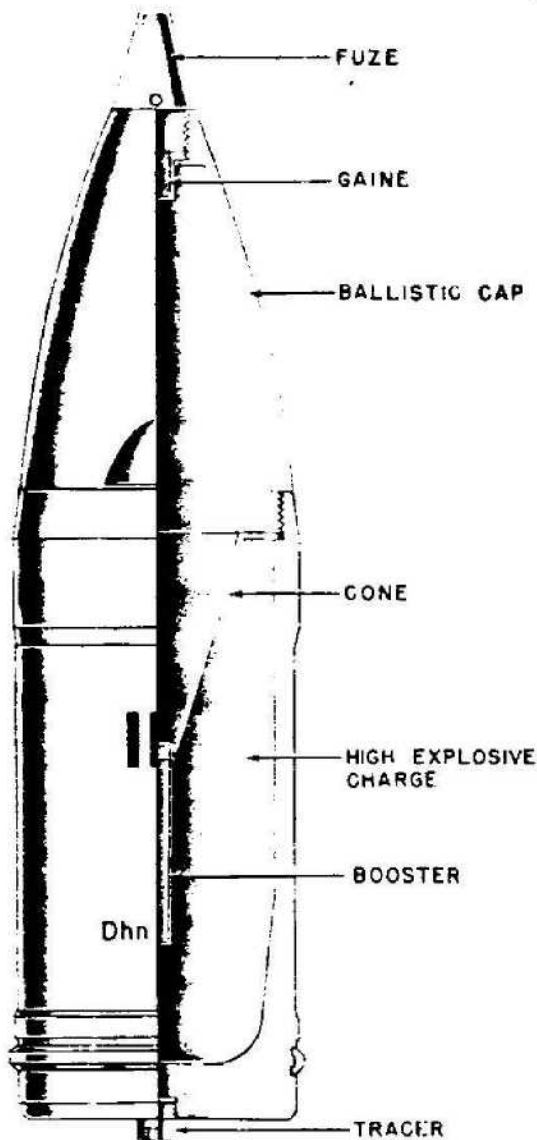

Figure 486—Hollow Charge Projectile for 150-mm Howitzer, 15-cm Jgr. 39 HL/A
**GERMAN NOMENCLATURE:** 15-cm. Jgr. 39 HL/A. (See fig. 486.)